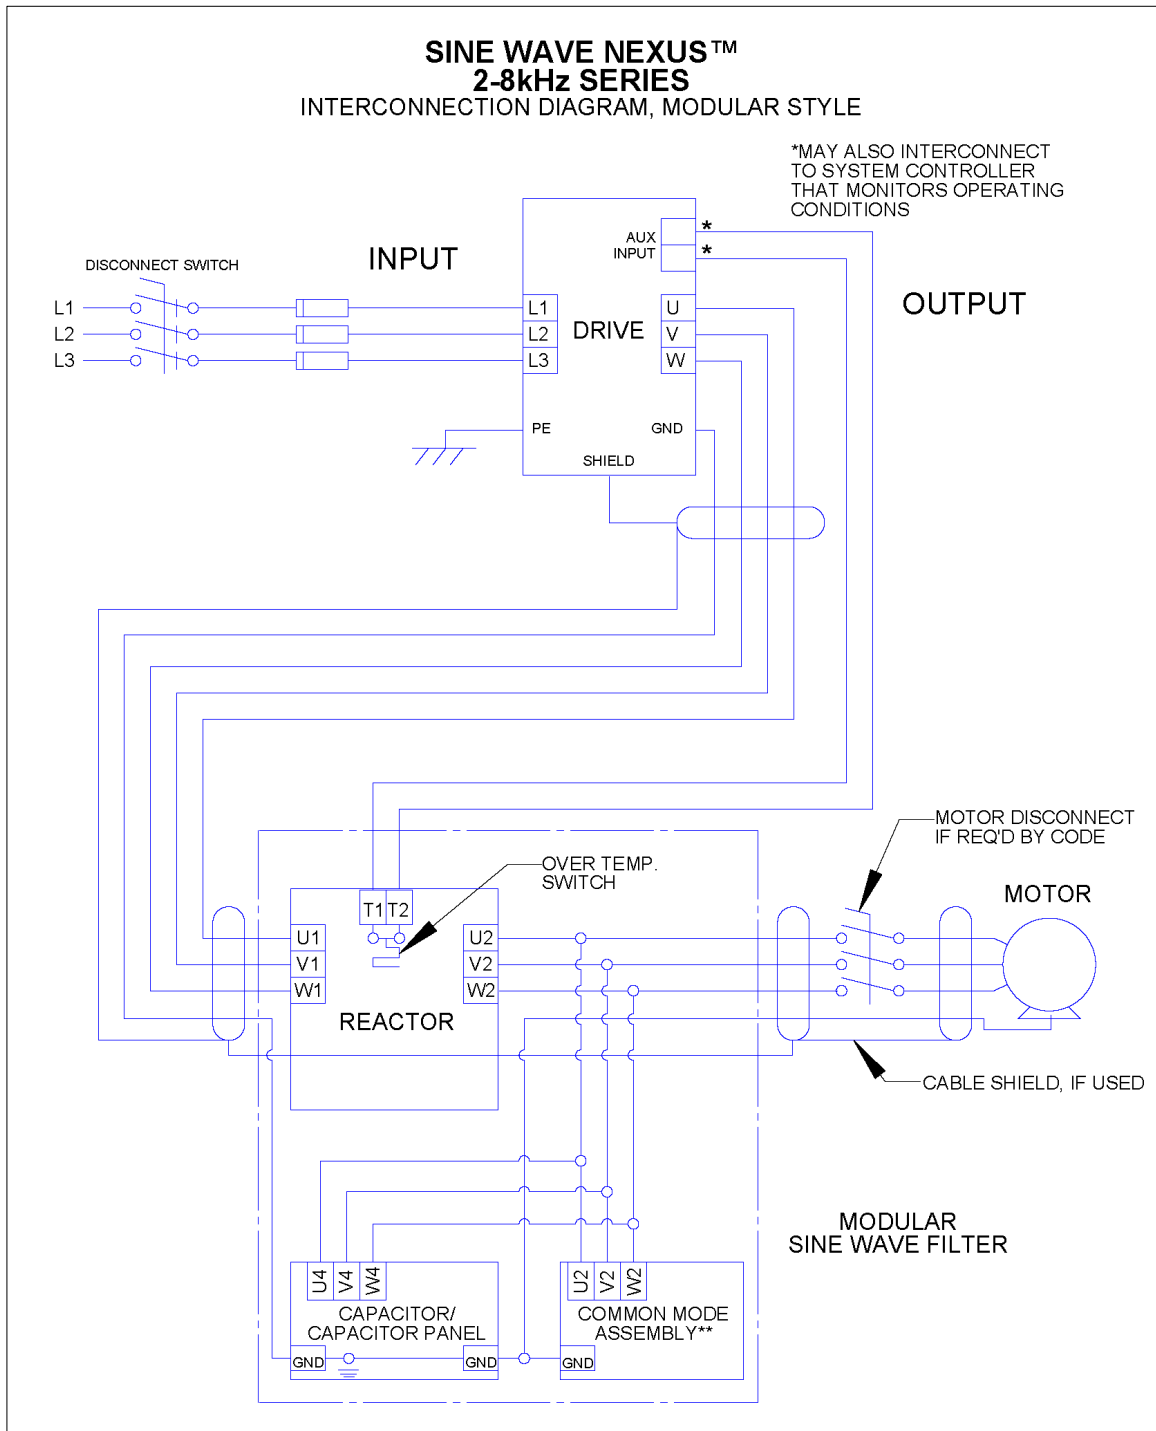

Figure 5-1: Modular Interconnection
- For modular filter applications, interconnection between the filter, its power source, the capacitor(s), the common mode assembly and the drive is shown in Figure 5-1: Modular Interconnection (p22).